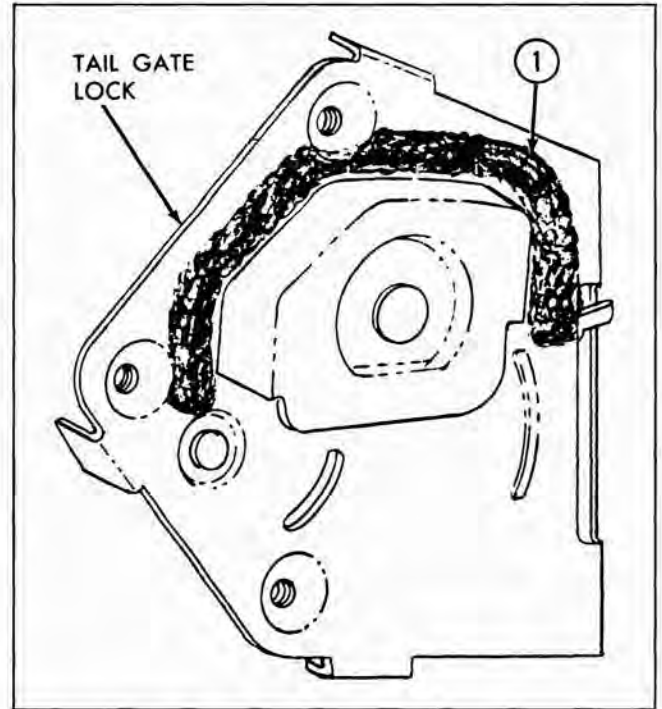

Fig. 5-21 Tail Gate Lock - Sealing
5. To install tail gate lock assembly, reverse removal procedure. Prior to installing lock assembly into tail gate, apply a bead of body caulking compound to lock frame along the joint of the lock bolt housing ("1" in Fig. 5-21).